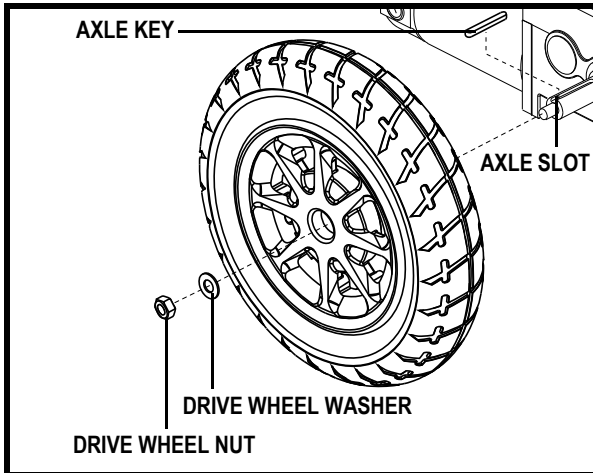

Figure 23. Drive Wheel
4. Remove the drive wheel nut and washer from the axle. See figure 23.